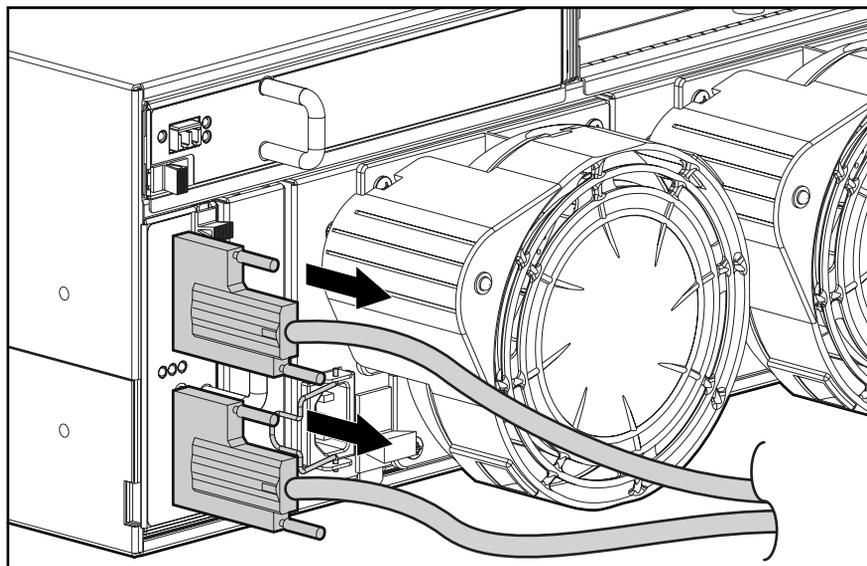

Figure 37: Removing SCSI cables
2. Unplug the SCSI host port A cable and SCSI host port B cable from the SCSI connectors, as shown in Figure 37.